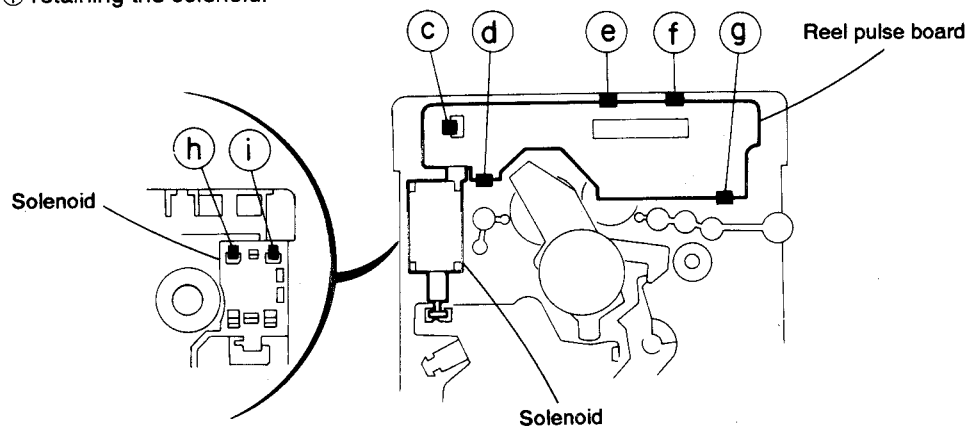

Fig.5-34
■ **Removing the Reel Pulse P.C. Board and Solenoid** (See Figs. 5-34)
1. Remove the five pawls (③, ④, ⑤, ⑥ and ⑦) retaining the reel pulse P.C. board.
2. From the surface of the reel pulse P.C. board parts, remove the two pawls ⑧ and ⑨ retaining the solenoid.